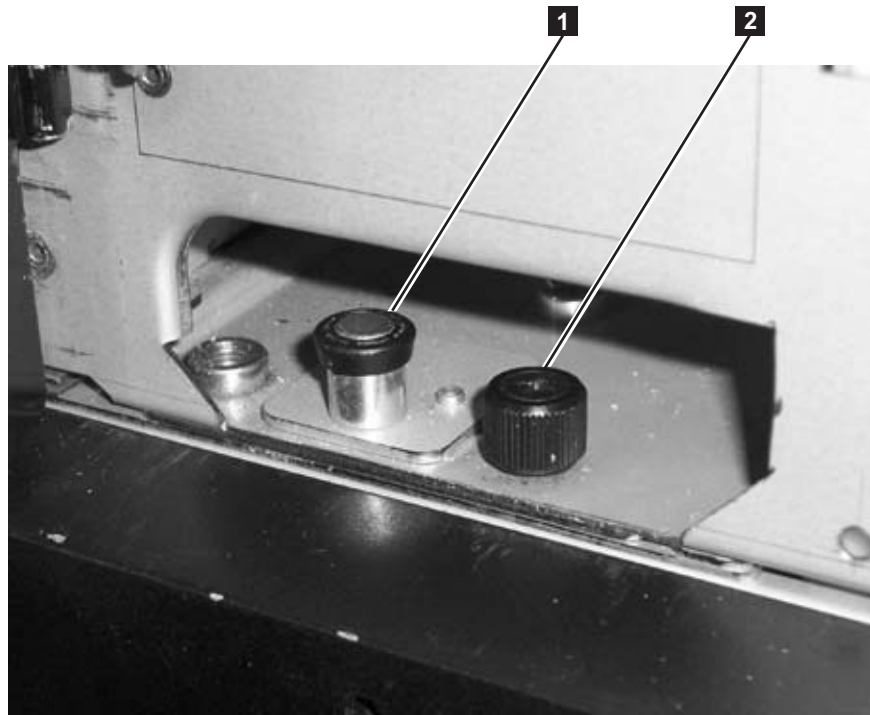

Figure 3-29. Module-to-Module alignment pin and front thumb screw
3. Ensure that the module-to-module alignment pin (**1** in Figure 3-29 on page 3-27) is in the raised position. If necessary, raise the pin and rotate it half a turn to lock it in the raised position.
9. Twist the upper module alignment pin (**1** in Figure 3-29 on page 3-27) to unlock it from the up position.
11. Tighten the front thumb screw (**2** in Figure 3-29 on page 3-27) and the thumb screw behind the I/O Station door to secure the front of the upper module to the lower module.